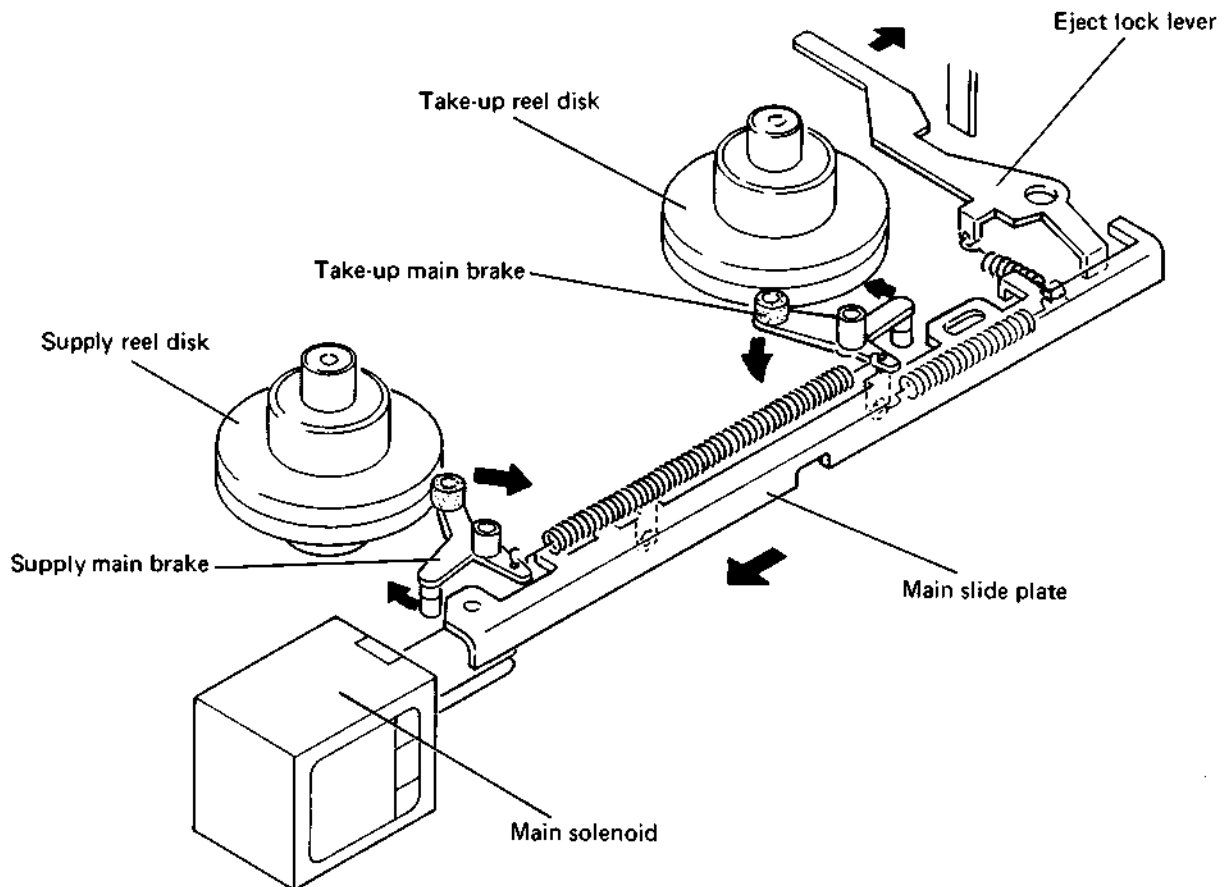

Fig. 2-2 Main brakes and eject lock
1. Main brake release (Fig. 2-2)
2. Eject lock (Fig. 2-2)